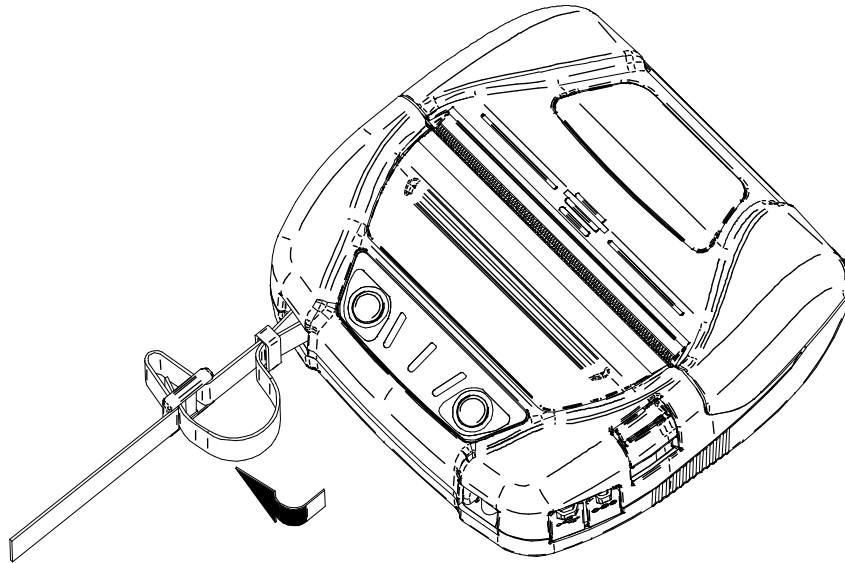

Figure 14-6 Shoulder Strap Installation (3)
- (3) As shown in Figure 14-6, pass the tip of shoulder strap through the adjuster hole on farther side from the printer.